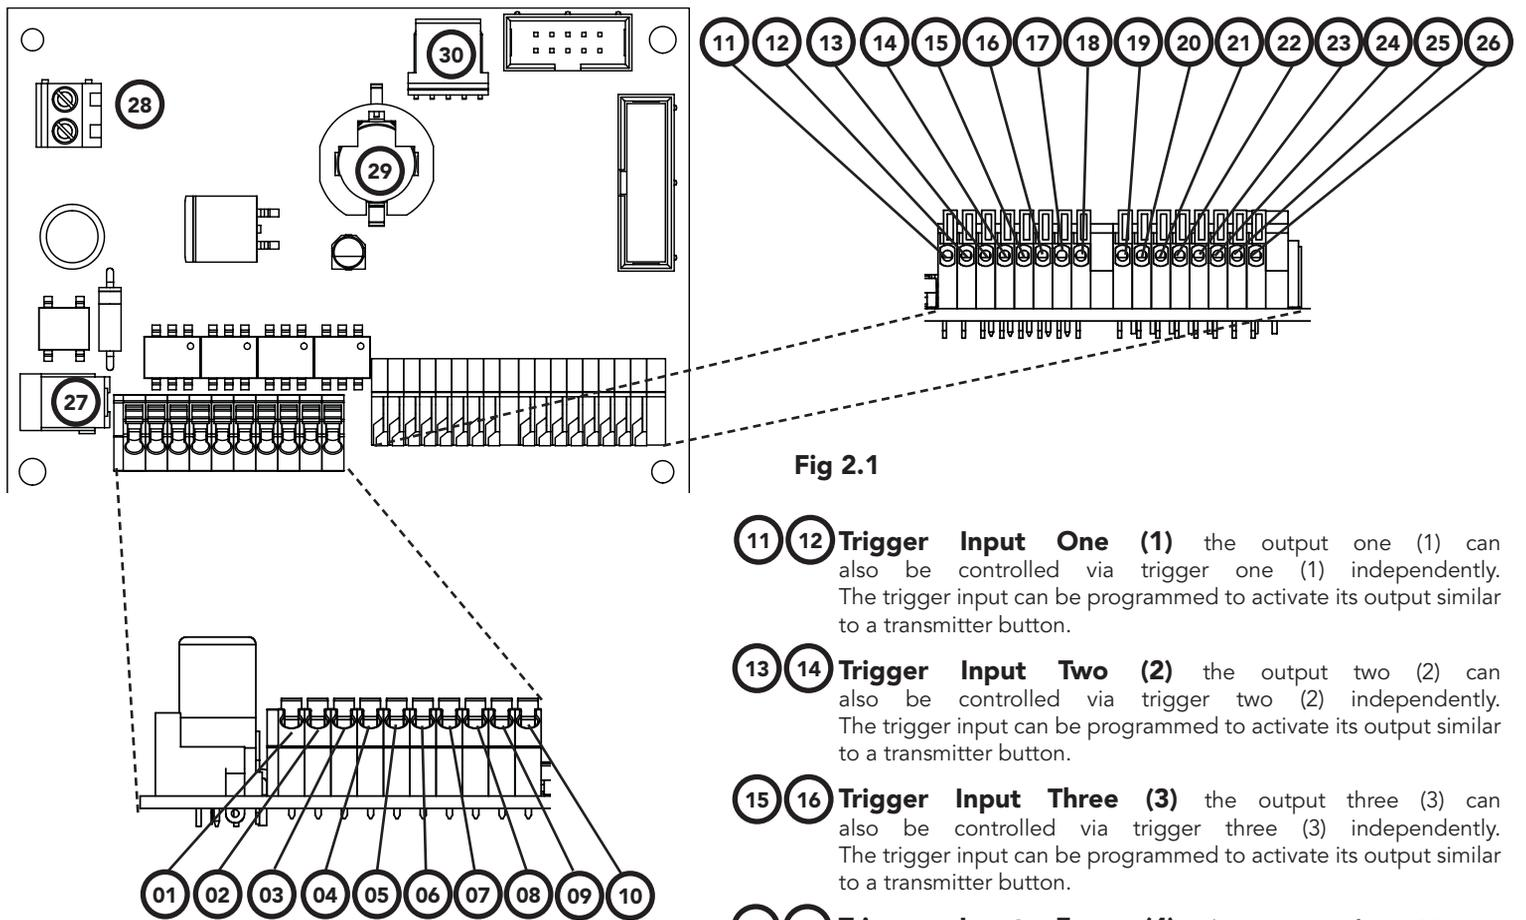

Fig 2.1
- Connect wiring using **Fig. 2.1** as guide and apply power to the receiver.